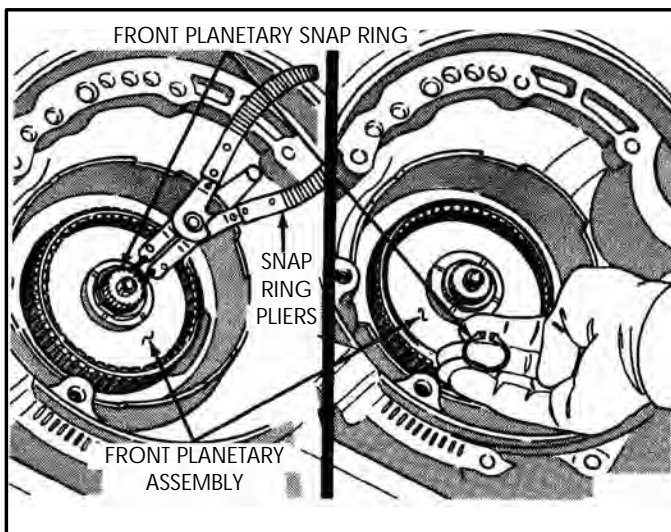

Figure 227
10. Install snap ring onto the output shaft using the snap ring pliers, as shown in Figure 227.